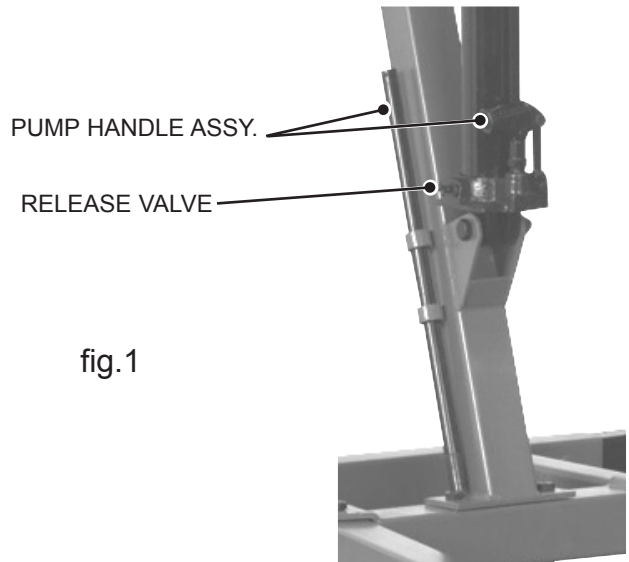

fig.1
- For control system, see Fig.1 for release valve and pump handle assy. Usage is explained in Section 3.2 Operation.